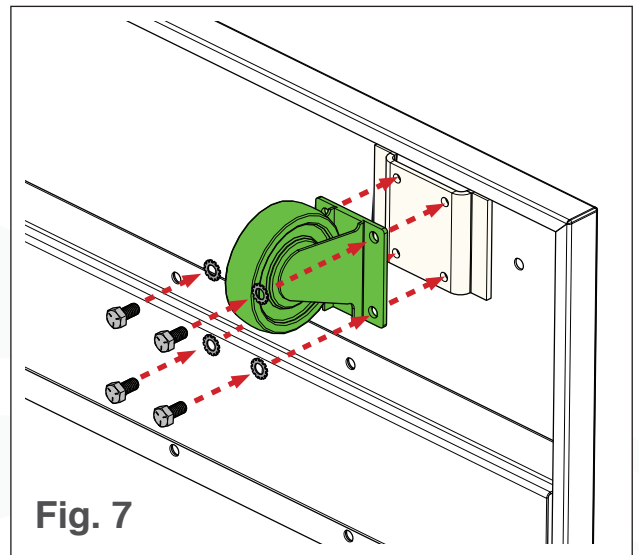

Fig. 7
2. Secure the casters to the base plate using all 16 bolts and star locks washers (see Fig. 7).
3. Place the bolts through four of the star lock washers, then through the lid holder and motor support (see Fig. 7).